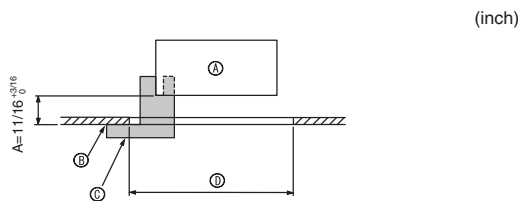
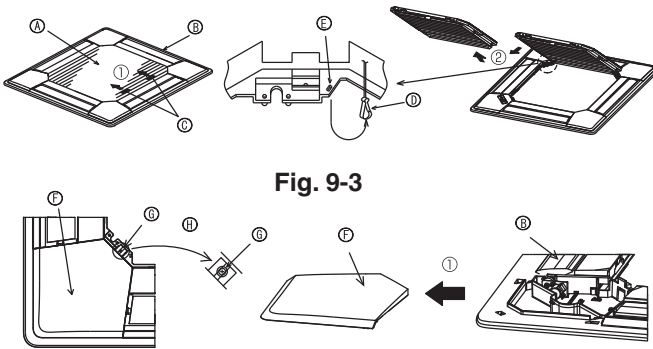
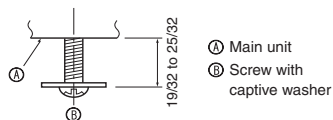

Fig. 9-2
Fig. 9-3
Fig. 9-4
①	Grille	1	950 × 950 (mm), 37-3/8 × 37-3/8 (inch)
②	Screw with captive washer	4	M5 × 0.8 × 25
③	Gauge	1	(Divided into four parts)
④	Fastener	3
⑤	Screw	4	4 × 8
⑥	Screw	1	4 × 12
9.2. Preparing to attach the grille (Fig. 9-2)
- With the gauge ③ supplied with this kit, adjust and check the positioning of the unit relative to the ceiling. If the unit is not properly positioned relative to the ceiling, it may allow air leaks or cause condensation to collect.
- C Gauge ③ (inserted into the unit)
9.2.1. Removing the intake grille (Fig. 9-3)
- Slide the levers in the direction indicated by the arrows ① to open the intake grille.
- With the intake grille in the "open" position, remove the hinge of the intake grille from the grille as indicated by the arrows ②.
9.2.2. Removing the corner panel (Fig. 9-4)
- Remove the screw from the corner of the corner panel. Slide the corner panel as indicated by the arrow ① to remove the corner panel.
[Fig. 9-3] [Fig. 9-4]